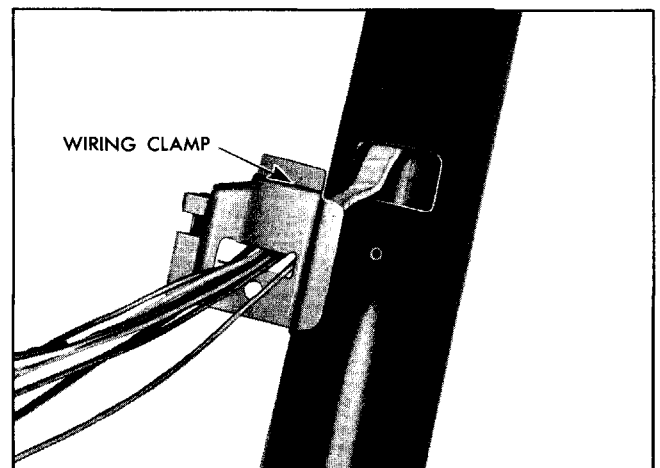

Fig. 7-8 Removing Wire Harness Clamp
2. Disconnect direction signal wiring harness, horn wire and Hydra-Matic indicator wire from connectors on steering column brace. Remove wiring clamp from steering column jacket and slip off of wires (Fig. 7-8).
17. Slip wiring clamp over wires and into place on steering column (Fig. 7-8) and attach with screw. Connect all wiring.